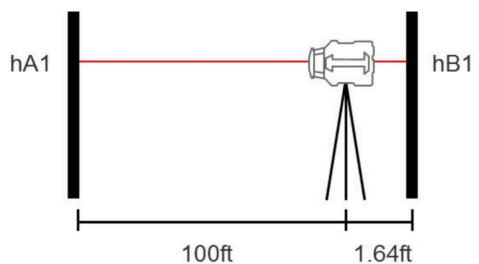

Figure 3
3. Then re-install the unit to close to the other wall as shown below (Figure 3), repeat step 2 and mark the points as h_{A1} and h_{B1} . Calculate $\Delta 1 = h_A - h_B$, $\Delta 2 = h_{A1} - h_{B1}$. The difference between $\Delta 1$ and $\Delta 2$ should be within $\pm 1/8$ in.